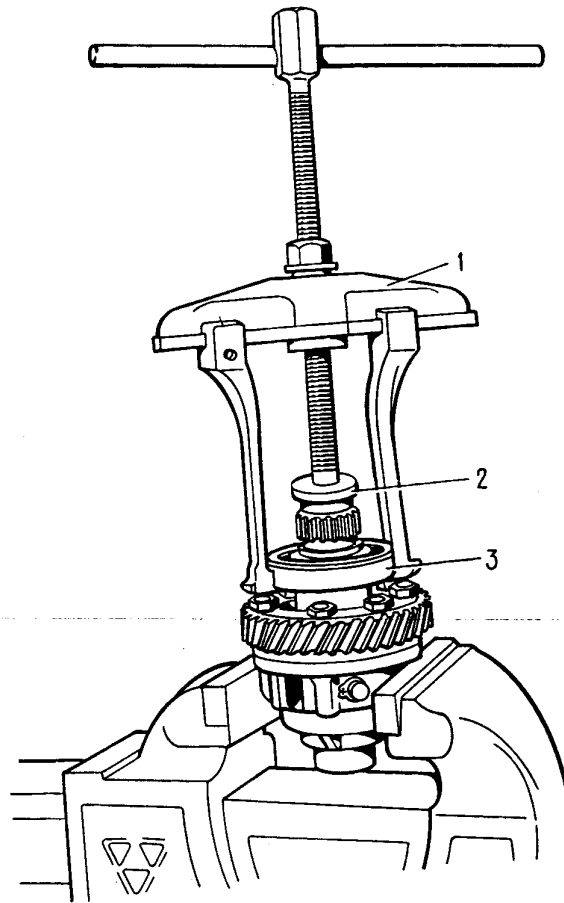

Fig. 3-46. Pressing Bearing Off Differential Housing:
- remove the front and rear bearings from the differential housing (Fig. 3-46) with a general-purpose remover tool and stop 67.7853.9559;